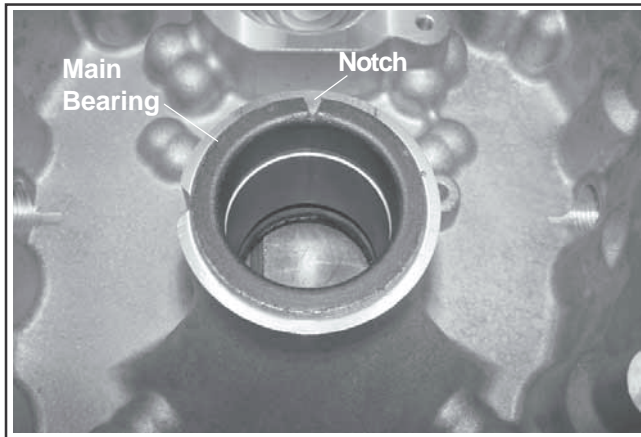

Figure 10-24. Installed Main Bearing In Closure Plate.
2. Install a new bearing with the notch in the 12 o'clock position, using a press and driver. Make sure the bearing is fully seated against the flange. See Figure 10-24.